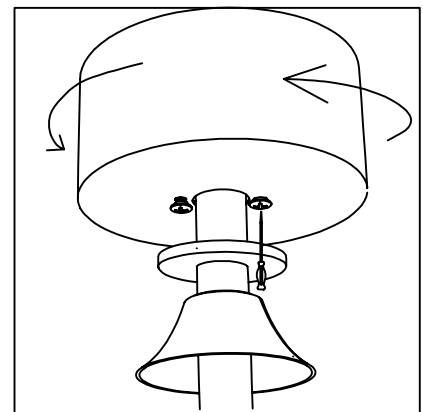

Figure 5.2
- Rotate the canopy upwards towards the screws on the hanger and tighten the screws. (Figure 5.2)